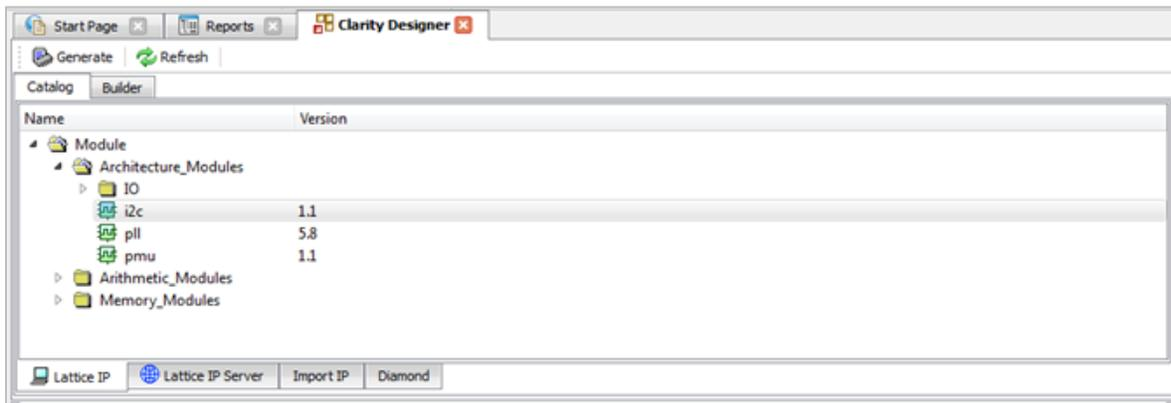

Figure 3.1. I²C Module in Clarity Designer
1. On the Lattice Diamond top menu, click **Tools**, and then **Clarity Designer**. With a CrossLinkPlus device targeted for the Diamond project, the Clarity Designer window appears and the I²C module is listed under **Module > Architecture_Modules**, as shown in Figure 3.1.